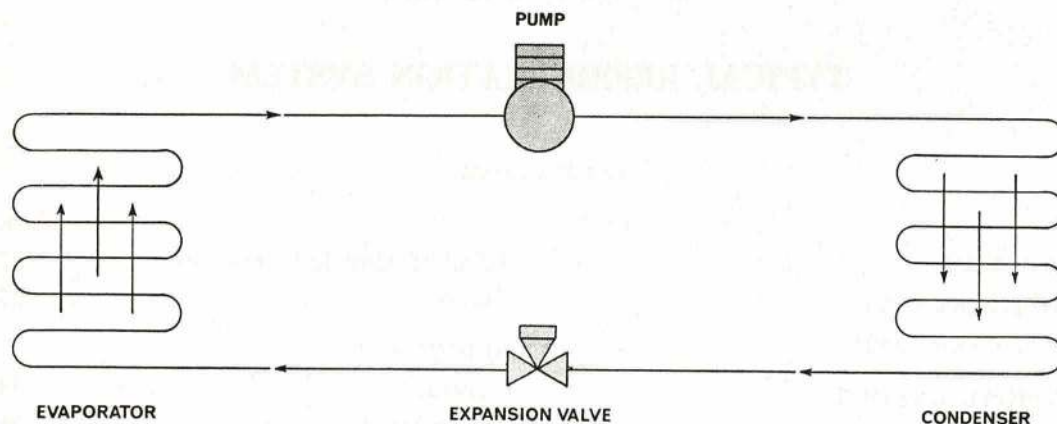

Fig. 1. REFRIGERATION CYCLE
2. If we have a closed vessel (a length of tube is used in a refrigerator) filled with refrigerant in both liquid and gaseous form, pumping away the gas will reduce the pressure and cause the liquid to boil (Fig. 1). Heat then flows from the surroundings into the